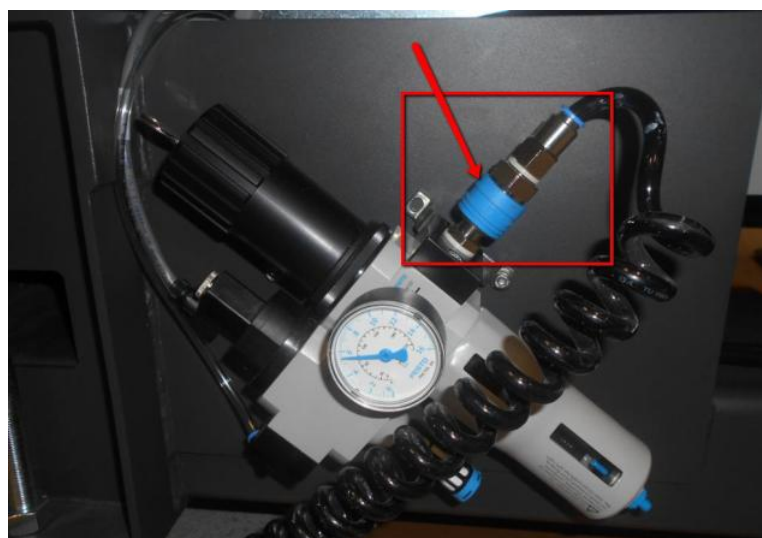

Figure 5 Air pressure Regulator Input Port
- Unplug other end of Air Pressure Input Port at Air Pressure Regulator as below Figure 5.